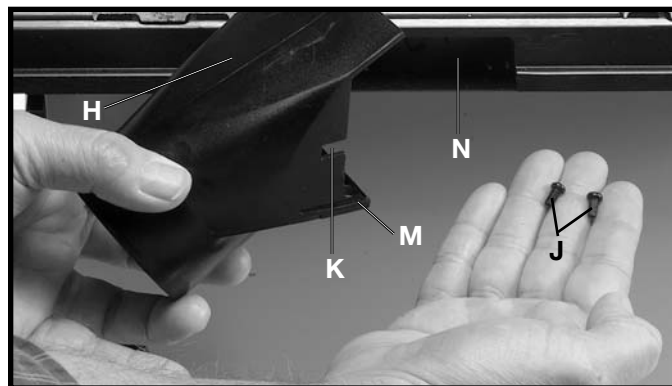

Fig. 8
4. If you will be connecting your Router/Shaper to a dust collection system, assemble the dust chute (H) Fig. 8, to the rear of the table by fastening bottom lip (M) of dust chute to sheet metal plate (N) using two M4x8mm sheet metal screws (J). **IMPORTANT:** Make certain the slot (K) in dust chute fits snugly around table lip (L). Also make certain lip (M) of dust chute, is underneath sheet metal plate (N). **NOTE:** If a dust collection system is not going to be used, do not attach the dust chute.